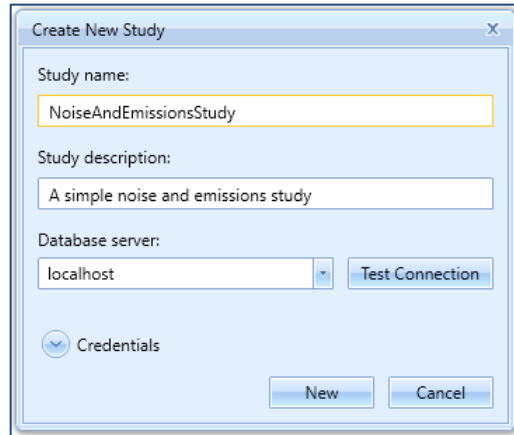

Figure 3. Create New Study Dialog
5. Click *New* to create a new study (Figure 3).